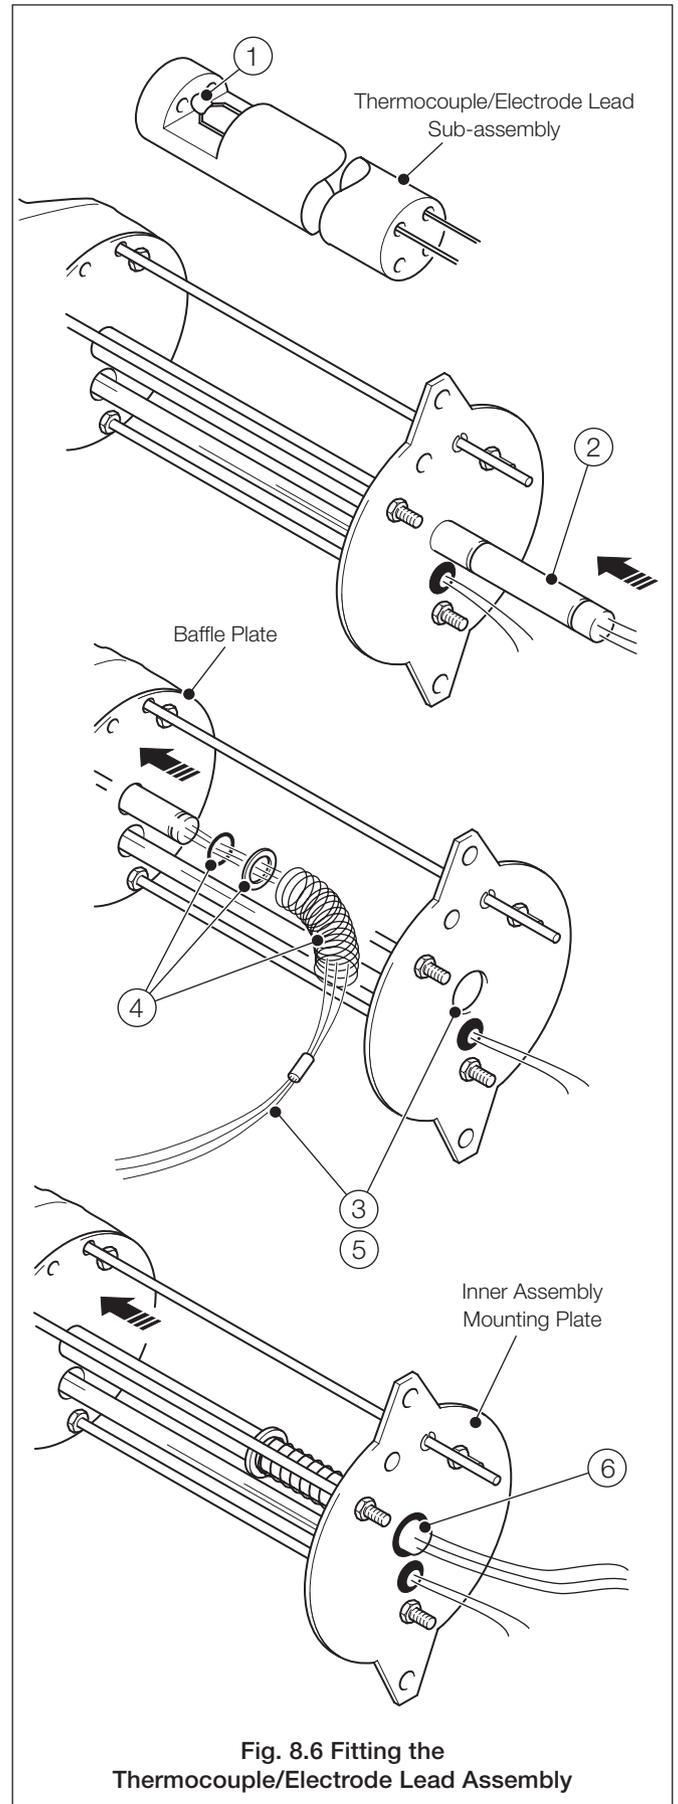

Fig. 8.6 Fitting the Thermocouple/Electrode Lead Assembly
8.7 Fitting the Thermocouple/Electrode Lead Assembly (0.4m Probes) – Fig. 8.6
- ① Check that the thermocouple bead is located at the **electrode end** of its cut-out, i.e. butted up against the end of the cut-out.
- ② Slide the thermocouple/electrode lead assembly through the central holes in the mounting plate, baffle plates and heater.
- ③ Pull the electrode leads through the mounting plate (from the underside of the plate).
- ④ Thread the rubber 'O' ring, washer and spring over the lead ends and onto the thermocouple/electrode lead assembly (locate the 'O' ring in the second groove on the assembly).
Refit the thermocouple/electrode lead assembly as detailed in Section 8.7, Fig. 8.6 on page 21 but note also the following: